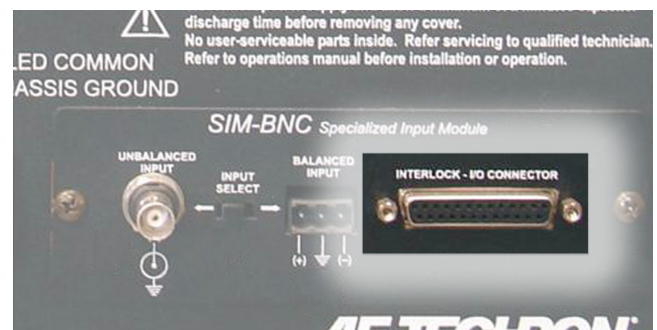

Figure 7.4 – Interlock I/O Connector
2. If both the Standby and Ready LEDs remain illuminated and the Interlock I/O Cable is being used, the amplifier is being held in Remote Standby mode by another device (see **Figure 7.4**). For more information on Remote Operation, see the **Applications** section in this manual.